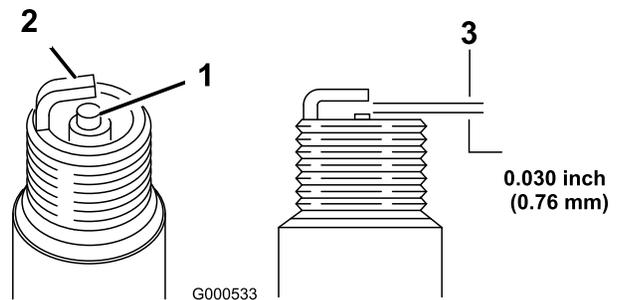

Figure 23
5. Set the gap on the plug to 0.76 mm (0.030 inch); refer to Figure 23.